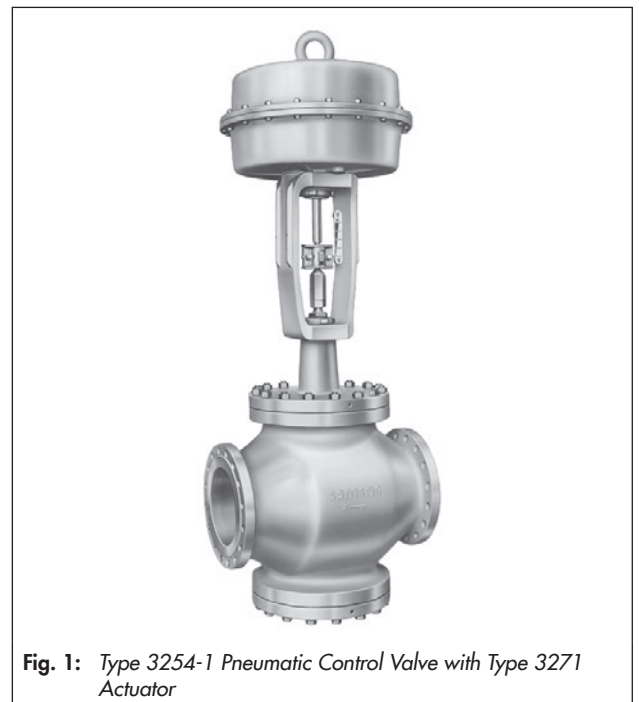

Fig. 1: Type 3254-1 Pneumatic Control Valve with Type 3271 Actuator
- **Type 3254-1** (Fig. 1) · Type 3254 Valve and Type 3271 Actuator with 350 to 2800 cm² actuator area (see Data Sheets ▶ T 8310-1, ▶ T 8310-2 and ▶ T 8310-3)